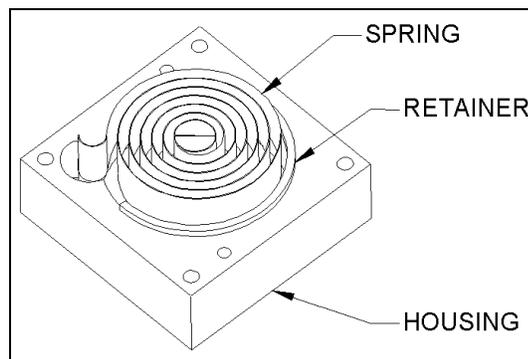

Figure 7-17 Insertion of Rotary Spring
- 5 Carefully remove the Rotary Spring (Part No. 324600400) and place a new one on the housing (Part No. 204026700) as shown in Figure 7-17, allowing the retainer to slide off while pushing the spring into the housing fully. Discard the retainer.